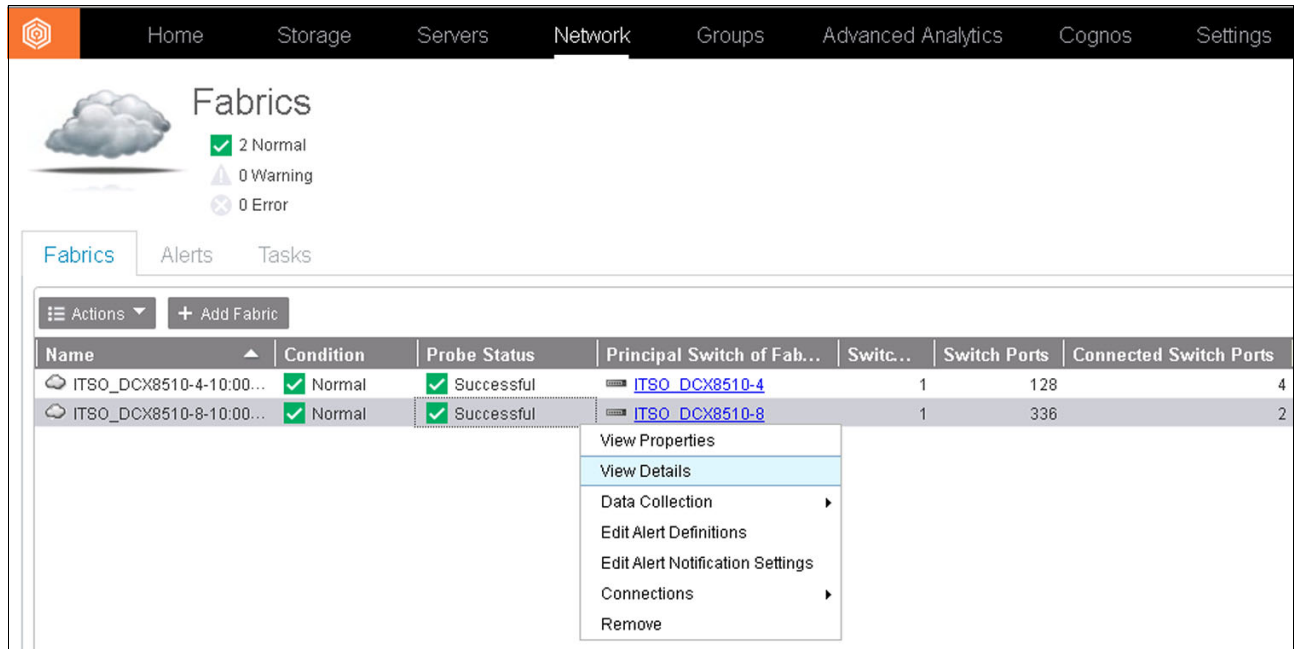

Figure 6-25 Showing fabric details
2. In the Fabrics view, right-click the wanted fabric and then select **Details**, as shown in Figure 6-25.